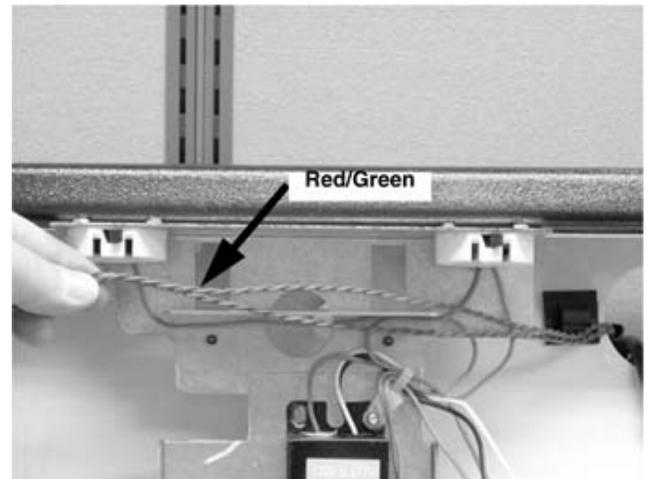

Figure 42.
- G. Place bottom of bracket into bottom of merchandiser making sure the red/green wire pair is in front of bracket, see Figure 42.